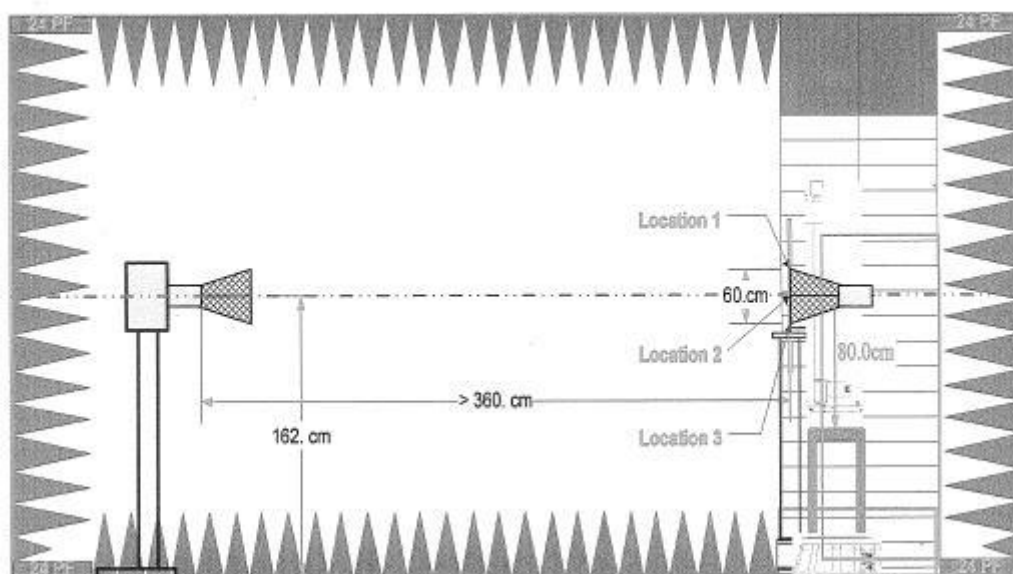

Figure 2. Quiet Room
- a. Equipment: Anechoic Chamber (Fig. 2), Network Analyzer (Agilent E8753ES)